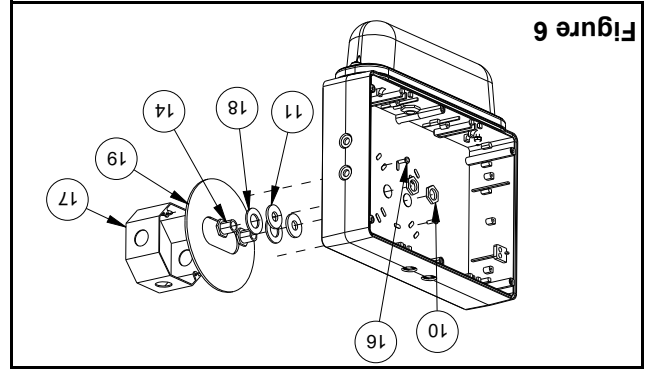

Figure 6
- a. Remove the backplate from the packaging. Determine the proper knockouts to remove for mounting to a junction box (see fig. 6). Support area around knockouts with two blocks of wood. Strike knockouts from the inside with a hammer and a screwdriver. For **Nexus** wired option, install the liquidtight fitting, provided with the unit.
- d. Mount parts 11, 12, 15 & 19 to backplate (as shown in fig. 6) and reinstall the backplate to the frame using the tamper-proof screws (use the supplied bit).